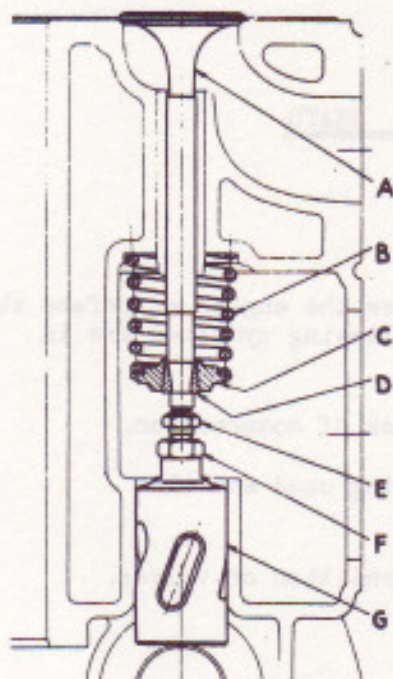
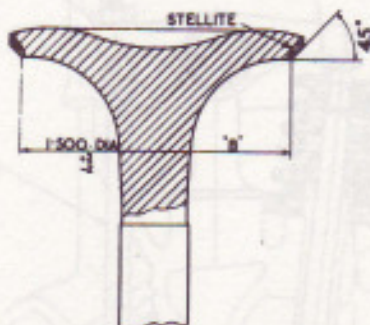

FIG. 12. ARRANGEMENT OF EXHAUST VALVE WITH CAST IRON GUIDE.
FIG. 17. SECTION THROUGH HEAD OF EXHAUST VALVE.
Unscrew sleeve nut of compressing tool sufficiently to allow the fork to be placed under bottom washer (C, Fig. 12) of the valve to be removed.
The exhaust valves have stellite seats, see Fig.17.
When retrimming the seating of the exhaust valve, grind off the material to the correct angle (i.e.  $45^{\circ}$  as shown in Fig.17) and sufficiently to remove pitting and then remove metal from the underside of the valve as in the case of the inlet valve, in order to maintain dimension 'B' as shown in Fig.17. However, prior to carrying this out, the locking nut (F, Fig.12) of each exhaust valve tappet should be released and the adjusting screw (E), screwed down several turns. To carry out this operation, slip the special exhaust tappet holding spanner (RF.3838 Fig.18) on to the flats provided at the top of the exhaust tappet, and placing the other end of the spanner on to the inlet tappet. Then, with the aid of the two  $\frac{1}{2}$ " and  $\frac{5}{16}$ " B.S.F. single ended spanners (RF.3834 and RF.4372), the locking nut can be released and the adjusting screw screwed down.